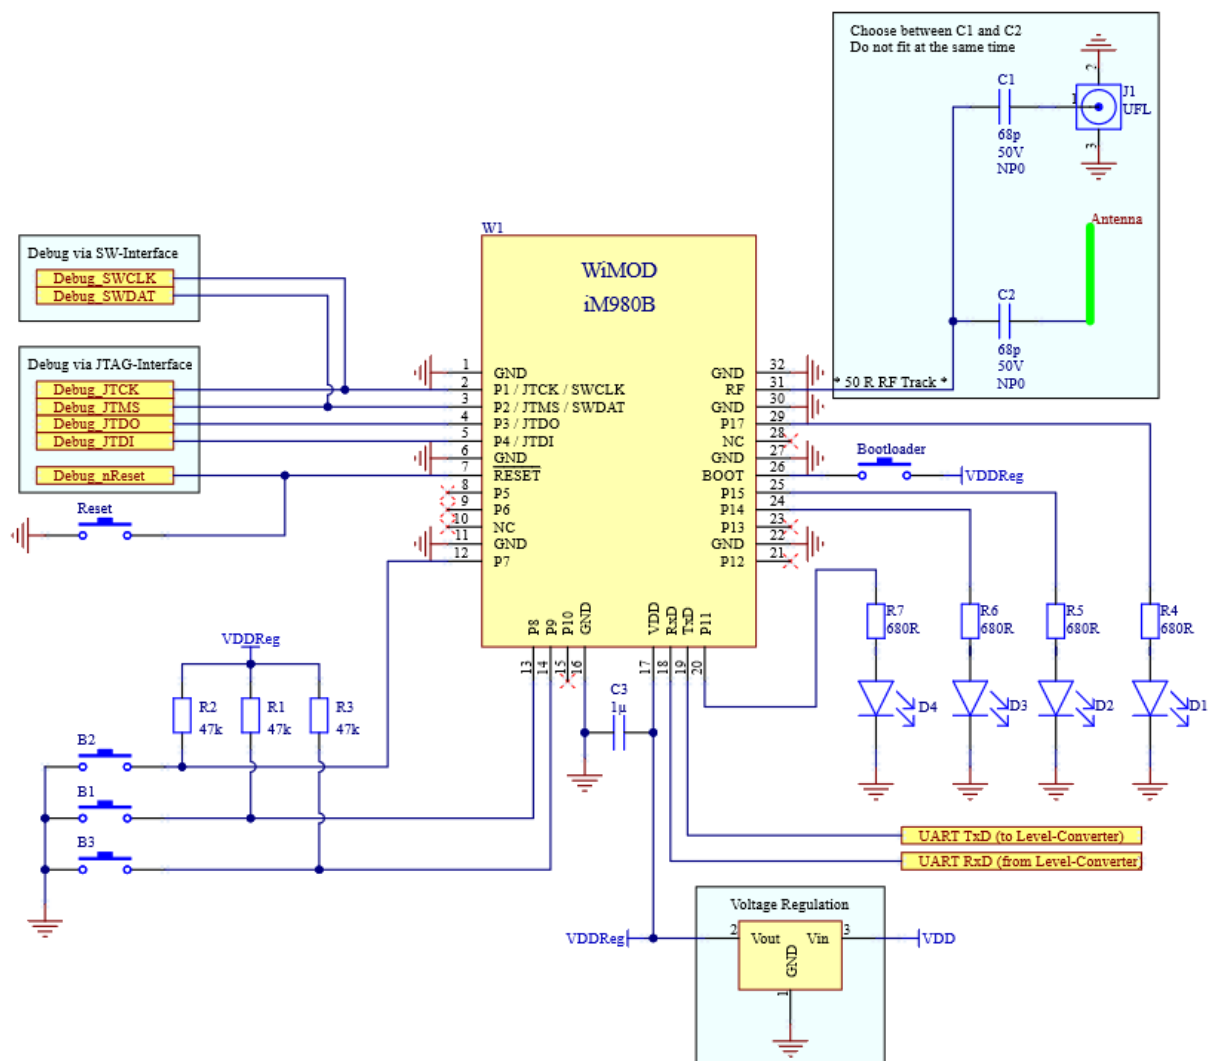

Figure 7-3: Typical Application Schematic for iM980B-MBand
The iM980B-MBand provides 32 pins as described in Chapter 5. For integrating the iM980B-MBand into an environment, a typically circuit as given in Figure 7-3 can be used. While designing the PCB Layout, the recommendations of Chapter 7.2 should be applied, as well as the recommendation for soldering in Chapter 7.7.
- A power supply regulator for the radio module, to supply the radio module with a voltage as required by Table 4-1 as shown in the reference schematic Figure 7-3